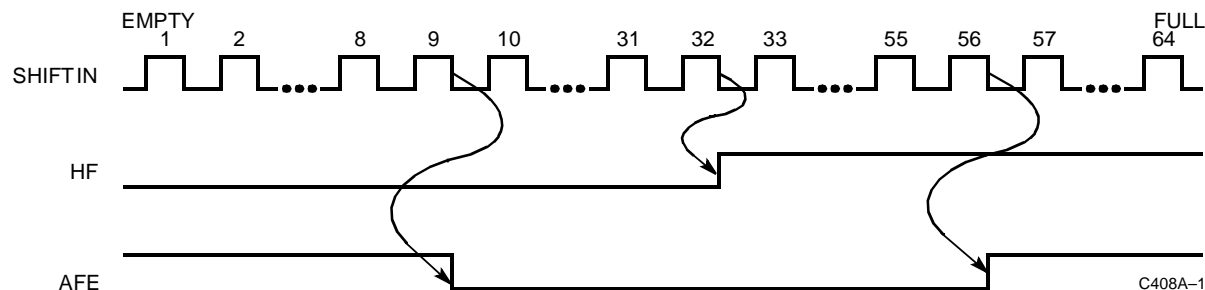

Figure 1. Shifting Words In
Two flags, almost full/almost empty (AFE) and half full (HF), describe how many words are stored in the FIFO. AFE is HIGH when there are 8 or fewer or 56 or more words stored in the FIFO. Otherwise the AFE flag is LOW. HF is HIGH when there are 32 or more words stored in the FIFO, otherwise the HF flag is LOW. Flag transitions occur relative to the falling edges of SI and SO (Figures 1 and 2).